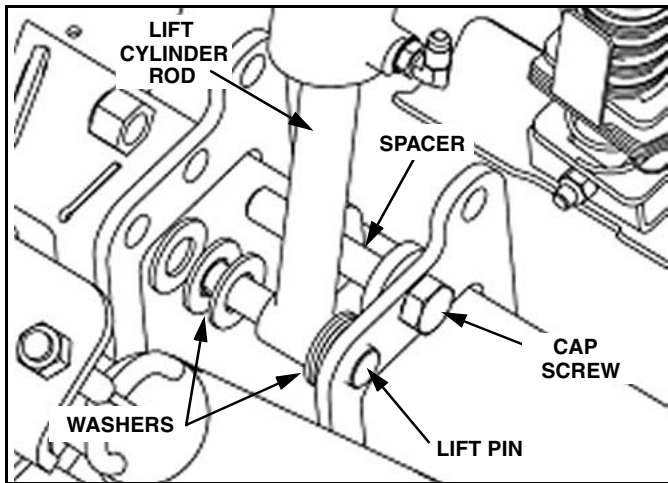

Figure 1-16
- b. Install the lift pin through the left bracket, three washers, lift cylinder rod, three washers and the right bracket. (See Figure 1-16).
- c. Install the 3/4 x 4.5" cap screw through the left lug, spacer and right lug. (See Figure 1-16).